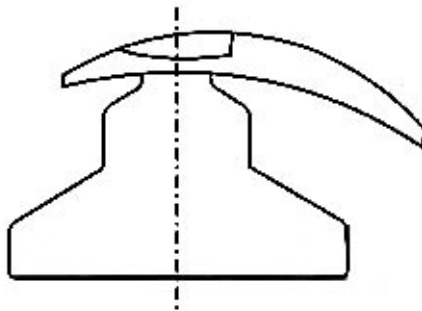

Fig. 15
3. Lightly move lens so that near vision part of bifocal lens (i.e. small lens) is placed on measurement bearing seat (Fig. 15), and drone is moved to center of eyepiece visual field.